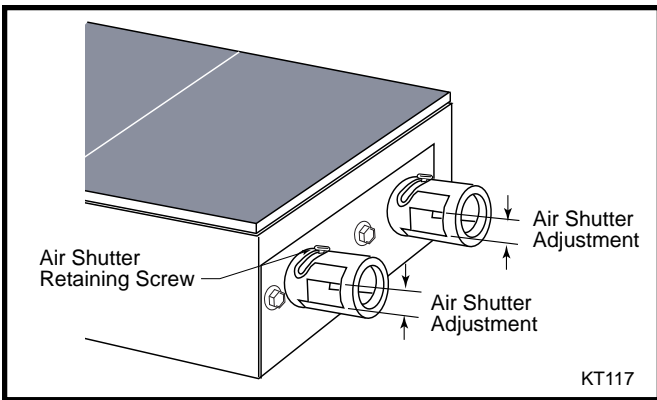

Fig. 4 Adjust the air shutters. Refer to Table 1 for correct air shutter openings.
10. Adjust the air shutters on the burner to the proper opening. (Fig. 4) This is accomplished by loosening the air shutter retaining screw. Rotate the air shutter to the proper position and tighten the shutter retaining screw. Adjust both air shutters to the same opening. Refer to Table 1 for correct air shutter opening adjustment.